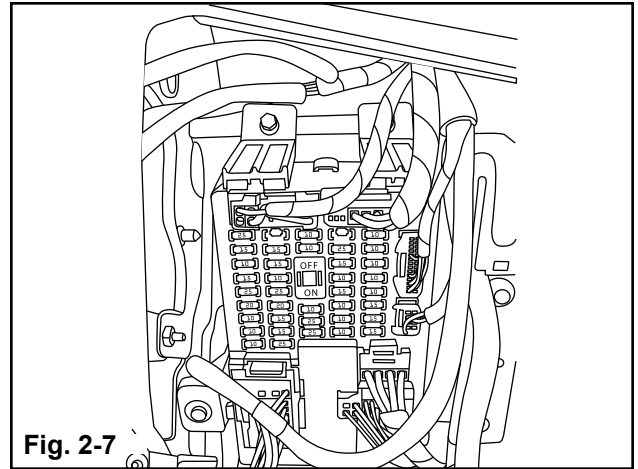

Fig. 2-7
- a) Route EC mirror harness from dash over to the fuse panel area in preparation of connecting to power and ground. (Fig. 2-7)